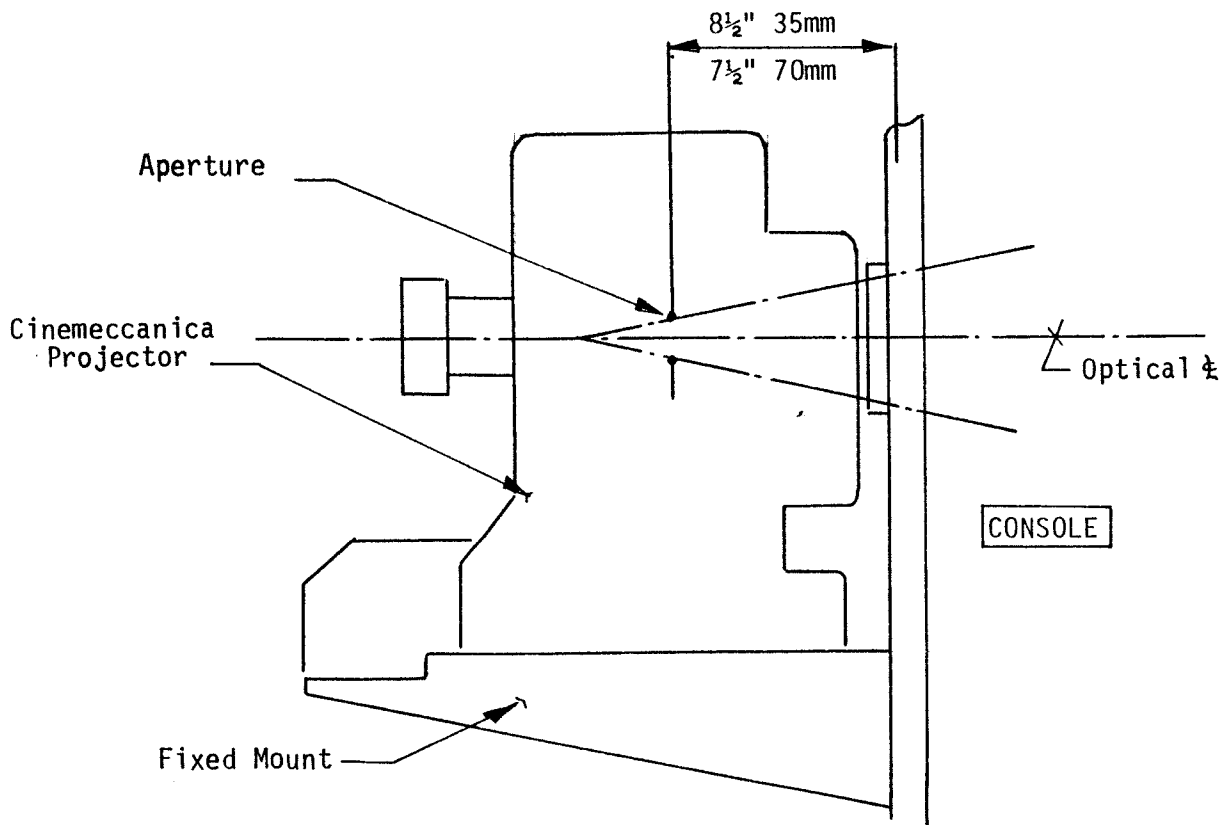

Figure 2-1. Projector Position
a. Before positioning the console, install the projector/soundhead on the projector/soundhead mount. Depending on the projector used, a spacer block may be required to obtain correct projector spacing (see Figure 2-1 for details).